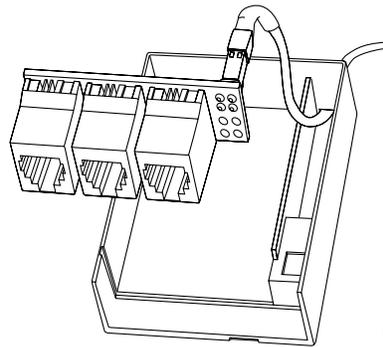

Figure 10
3. Remove the circuit board from the interface box to plug the cable from the Entry into the circuit board (Figure 10). The cable should be inserted so the tab is facing in the downward position.
5. Remove the circuit board from the interface box to plug the cable from the first interface box into the circuit board (Figure 10). The cable should be inserted so the tab is facing in the downward position.